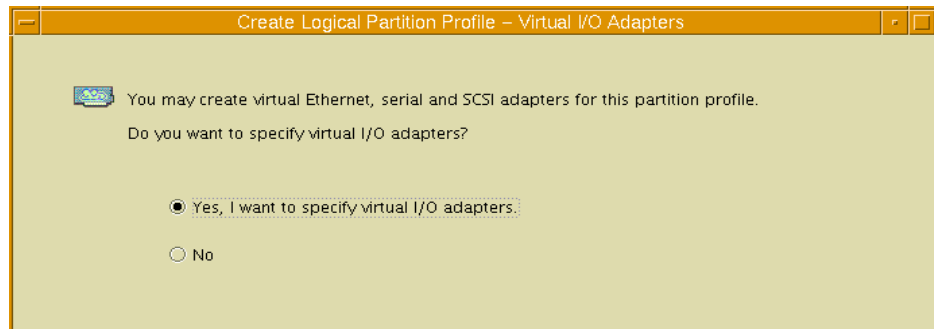

Figure 4-20 Create Virtual SCSI and Ethernet
1. Open up the VIO server's profile. Perform the Virtual SCSI and Ethernet creation as shown in Figure 4-20 on page 382.